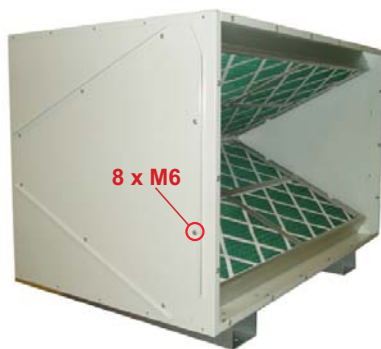

Figure 6.5
1. Unscrew the screws holding one of the covers (see *Figure 6.5*). Carefully remove the cover from the filter box without damaging the gasket.